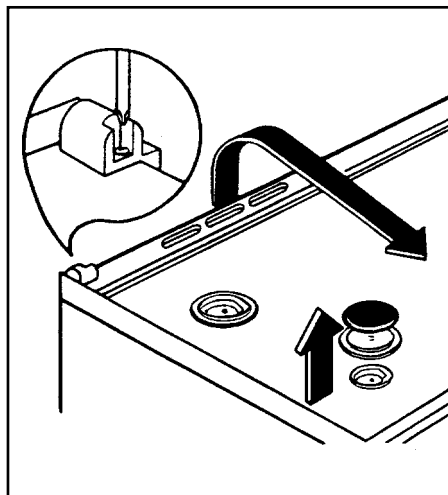

Fig. 29
- dismantle the two cover brackets by unscrewing the relevant fixing screws (fig. 29);